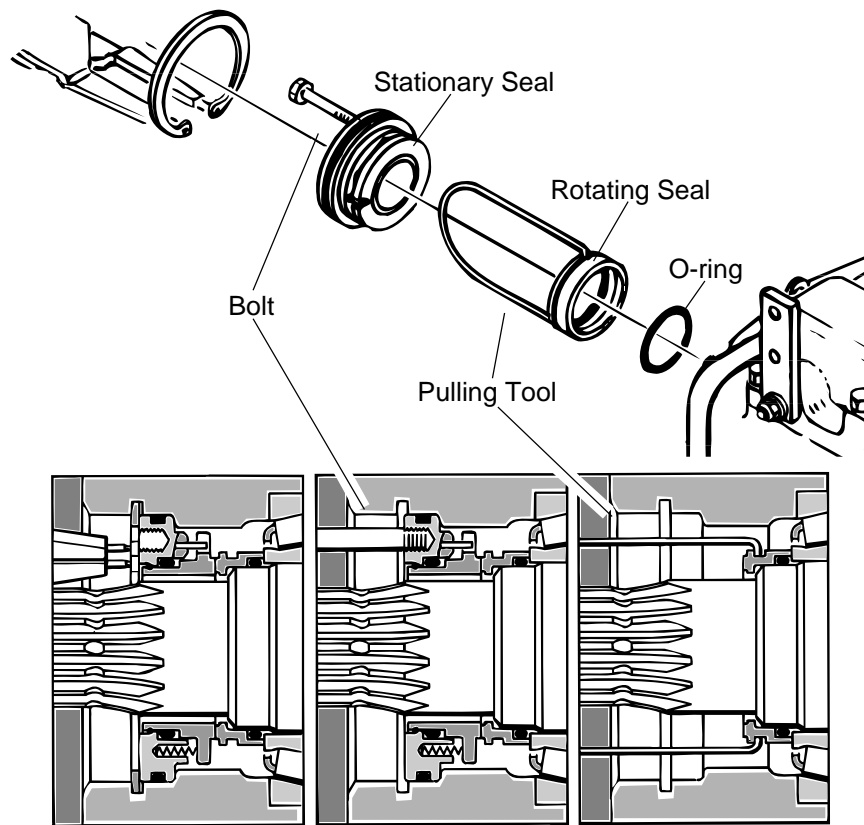

Figure 1
- 6 Use the special pulling tool, Owatonna Tool Co. P/N CAS 1844, to remove the rotating seal, see figure 1. If the special tool is not available pull out the rotating seal with a wire bent to the shape of the puller.